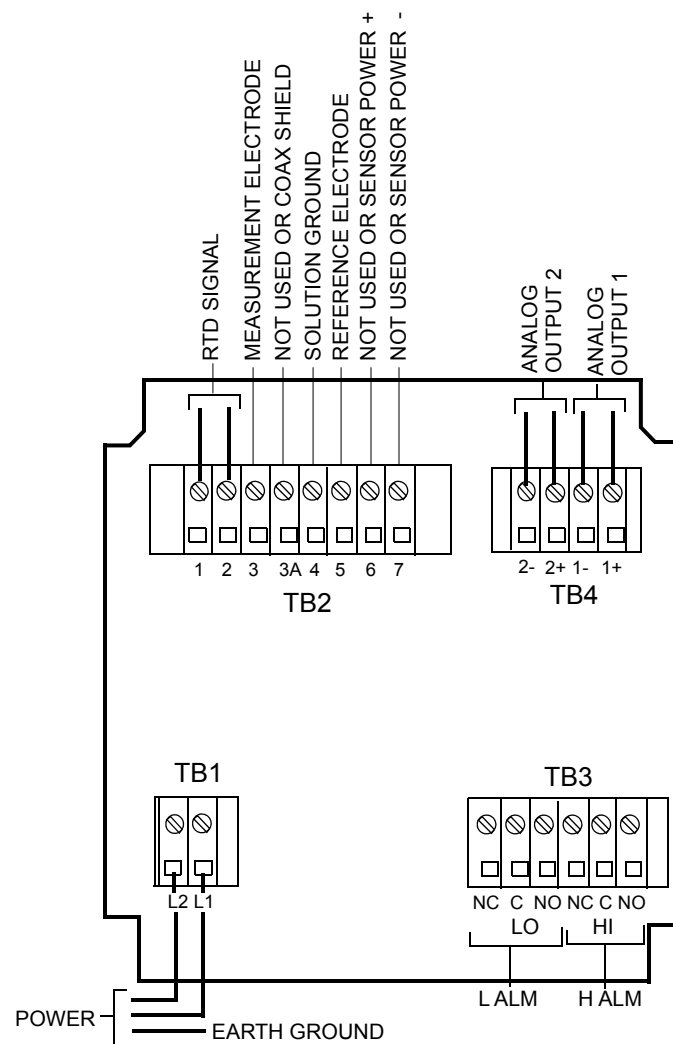

Figure 2. Metal Enclosure Rear Panel Wiring for Power, Output, and Alarms
2. Connect H and L Alarm wires to TB3 as shown in Figure 2. Refer also to “General Information Alarms” on page 41.
4. Connect sensor wires to Analyzer terminal block TB2 as shown in Figure 2.
5. Connect power wires to terminal block TB1, as shown in Figure 2. The earth (ground) connection from the power cord should be connected to the ground stud located in the bottom of the case. This connection is mandatory for safe operation.